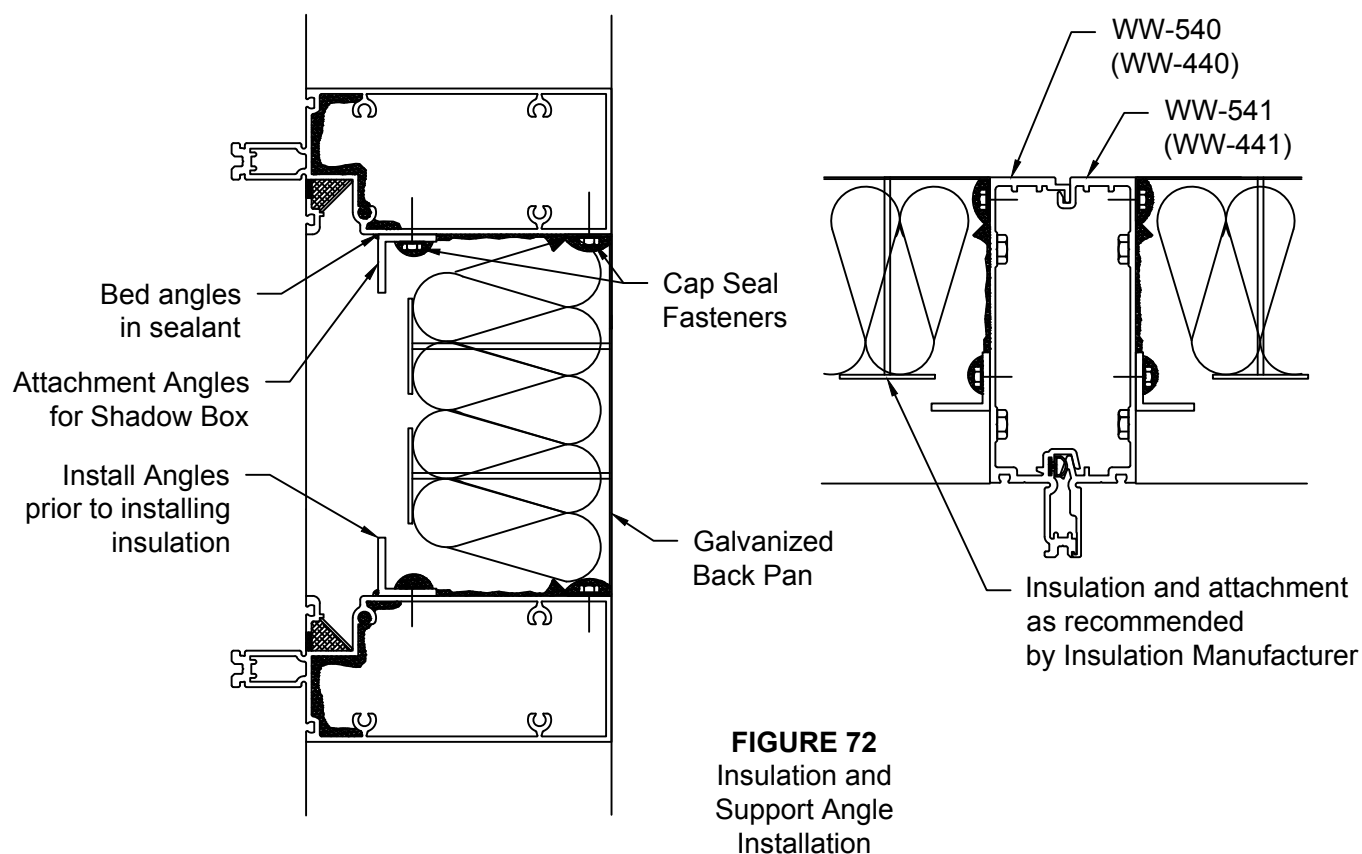

FIGURE 72
- 6.23 Install shadow box attachment angles around perimeter as shown in **FIGURE 72**, page 17. Bed angles in sealant and cap seal attachment fasteners. Note: angles are only required for shadow box application.
- 6.24 Insulation will be placed into cavity. See **FIGURE 72**,page 17.